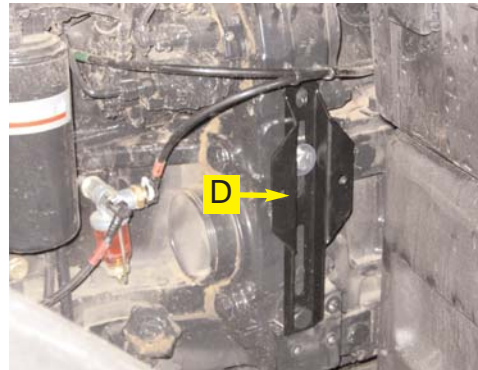

Figure 2b. Installed mounting bracket.
- b. Mount the bracket (**D**) as shown using the hardware (**F**). (Figure 2b.)